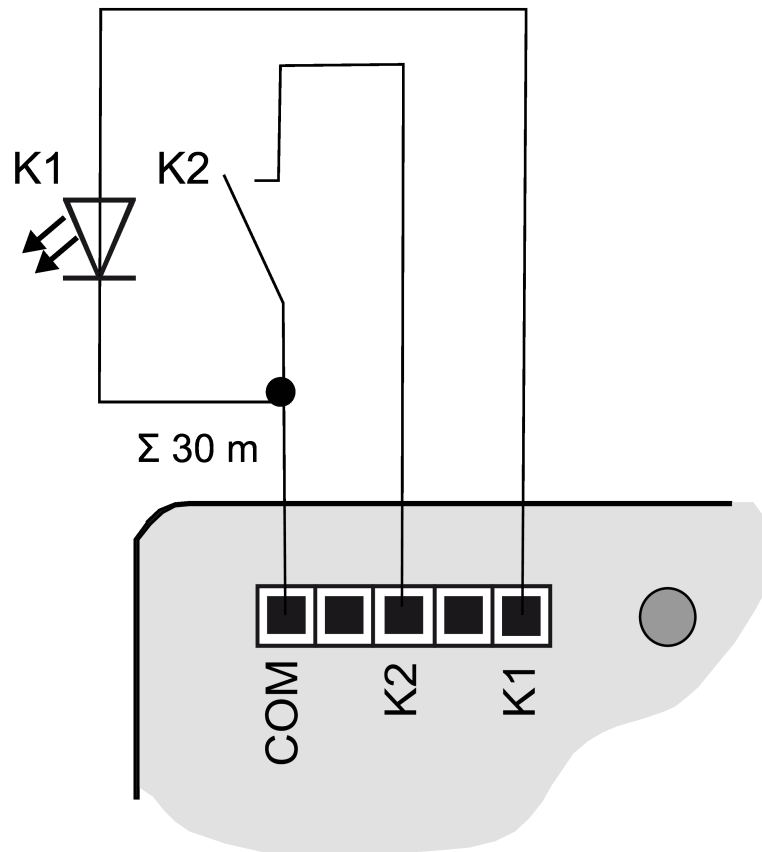

Figure 6: Connection example: push-button interface 2-gang
- Connect push-buttons, switches, contacts, LED or NTC to enclosed connecting cables (4) according to the connection examples; (see figure 6) to --- FEHLENDER LINK ---. The connection examples show the use with inputs and outputs.